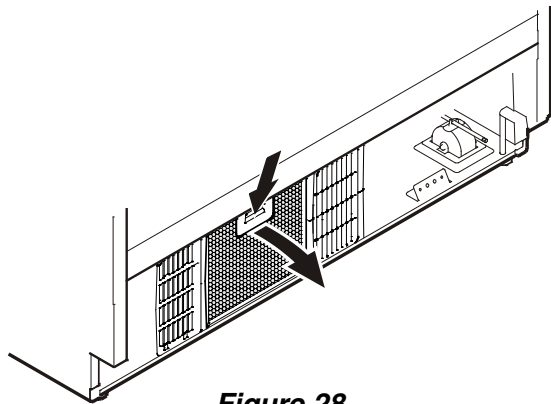

Figure 28
- Push down the button of the air filter, tilt to the front and remove - **Figure 28**.